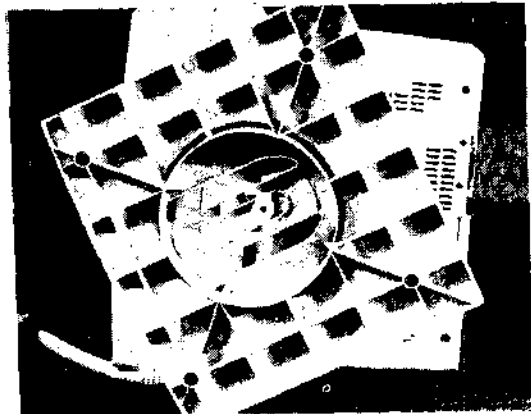

Figure 2-1. Attaching Pedestal to Console
**2.1.2 Attaching Pedestal to Console.** To attach pedestal to console, place console on a sturdy flat surface with bottom facing out and protruding slightly over the edge. Place slotted center of pedestal over large tab of console and line up two smaller tabs on console with grooves on pedestal. Turn pedestal clockwise so that the two small tabs enter grooves. See figure 2-1.